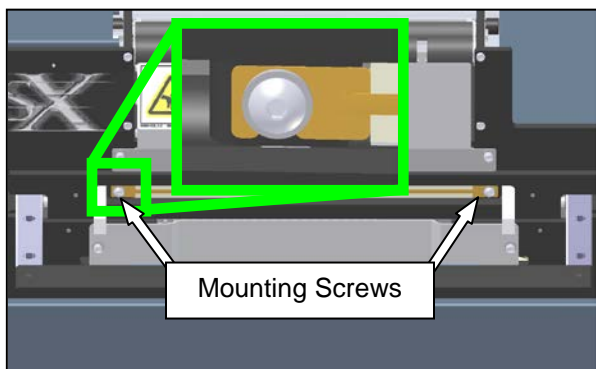

Figure 3-331. Seal Wire Mounting Screws
4. Remove the two mounting screws for the seal wire. Install the new seal wire as shown, with the open ends of the hooks to the bottom of the machine. **The tapered, profile side of the seal wire is to be exposed, to the outside of the machine (Figure 3-331).**